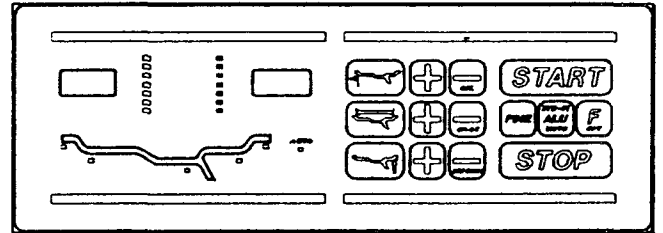

Fig.45
J. Rotate the wheel until the angular indicators are all lit (Fig.45)
K. Rotate the wheel until the outer angular indicators are all lit (Fig.45)